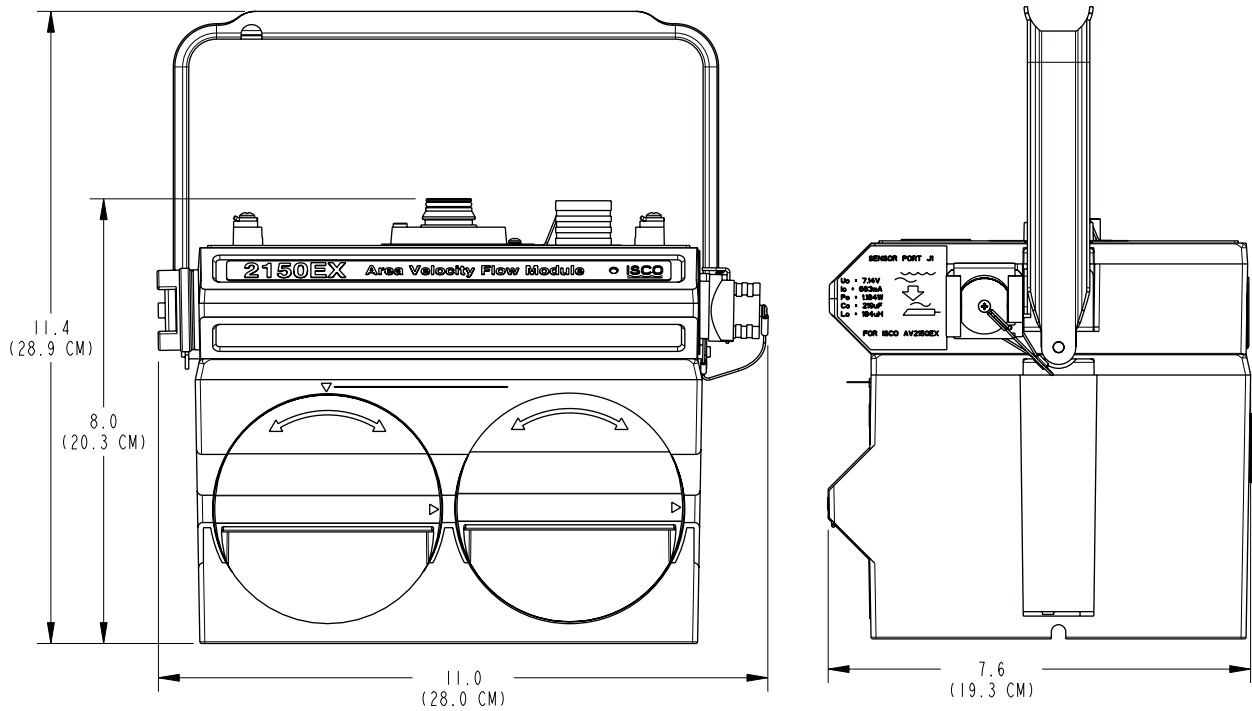

Figure 1-5 Specification drawing: 2150EX mounted on a 2196EX
- Figure 1-5 is a specification drawing, providing the dimensions of a 2150EX mounted on a 2196EX.